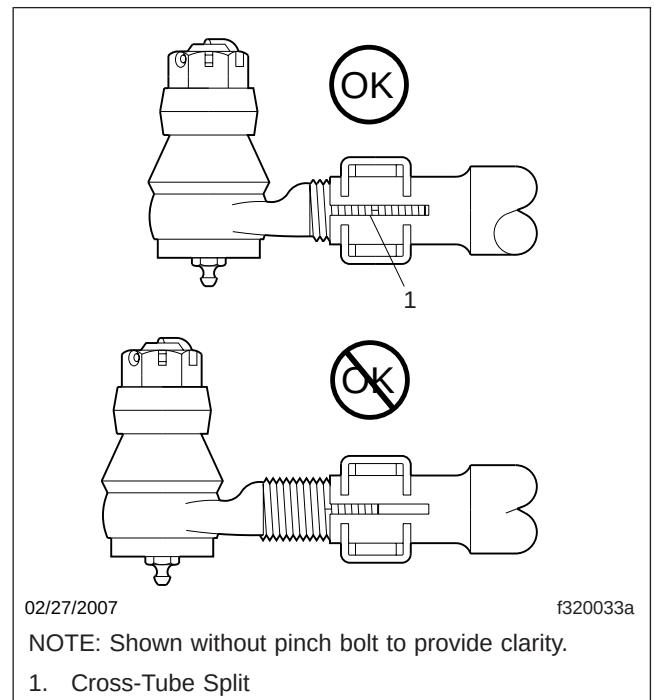

Fig. 2, Tie-Rod End Adjustment
2. The threaded portion of the tie-rod end assembly must be inserted all the way into the cross-tube split for adequate clamping. See Fig. 2. Replace the components if this cannot be done. For instructions, see **Group 33** of the *Century Class Trucks Workshop Manual*.